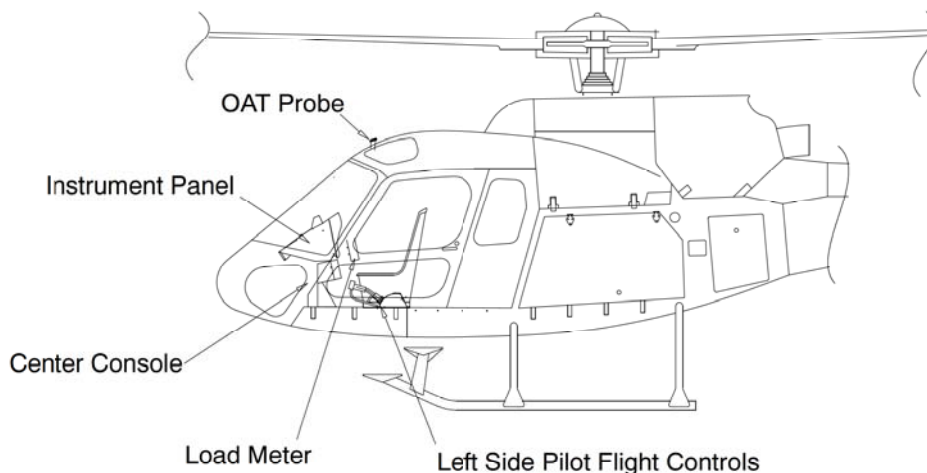

Figure 1 General Layout
- A. The subject left side pilot configuration is offered to provide better visibility during cargo sling operations and to improve space in the cabin for the installation of other optional equipment such as the Two Place Seat. Refer to Figure 1.